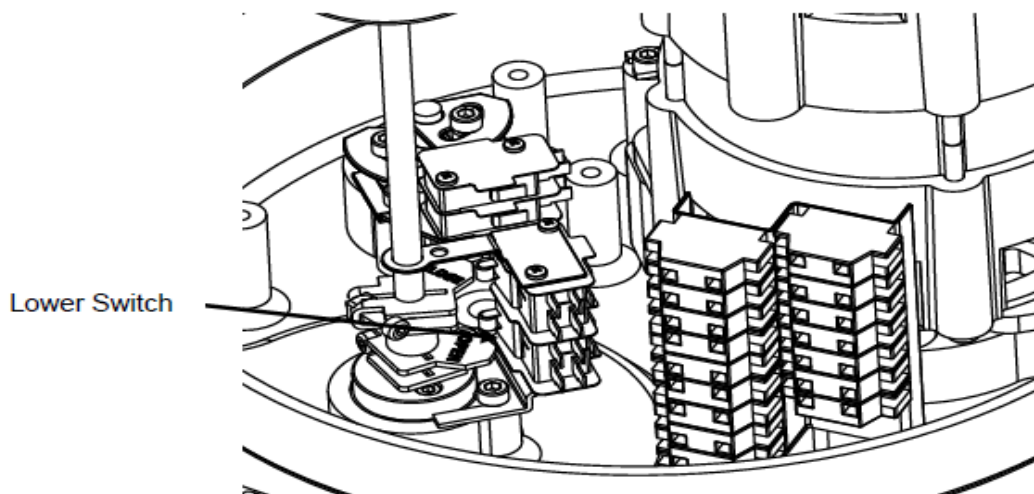

Figure 2: Open Cam Setting
- Rotate the OPEN cam CCW until the limit switch 'clicks' (see Figure 2)